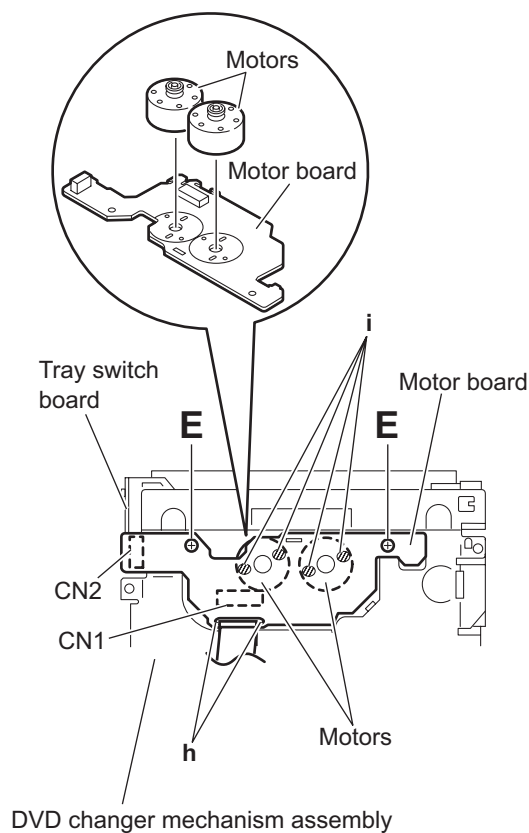

Fig.10
- (3) From the bottom side of the DVD changer mechanism assembly, remove the two screws **E**. (See Fig.10.)
- (4) Disconnect the connector **CN2** on the motor board from the tray switch board and remove the motor board. (See Fig.10.)
- (5) Disconnect the card wire from the connector **CN1** on the forward side of the motor board. (See Fig.10.)
When connecting the card wire, let the card wire through the slots **h** of the motor board. (See Fig.10.)
3.3.5 Removing the motor (See Fig. 10)